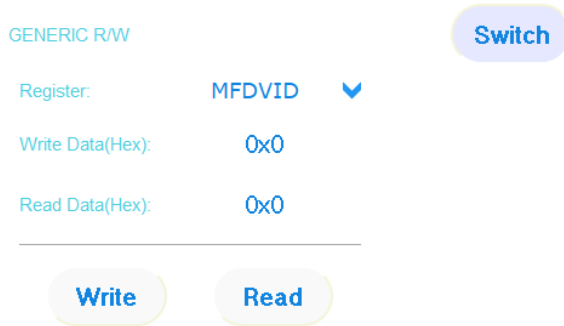

Figure 15. Generic Read and Write (**GENERIC R/W**) for Windows
- Click **Switch** in Windows to enable the read and write of the registers directly (see Figure 15).